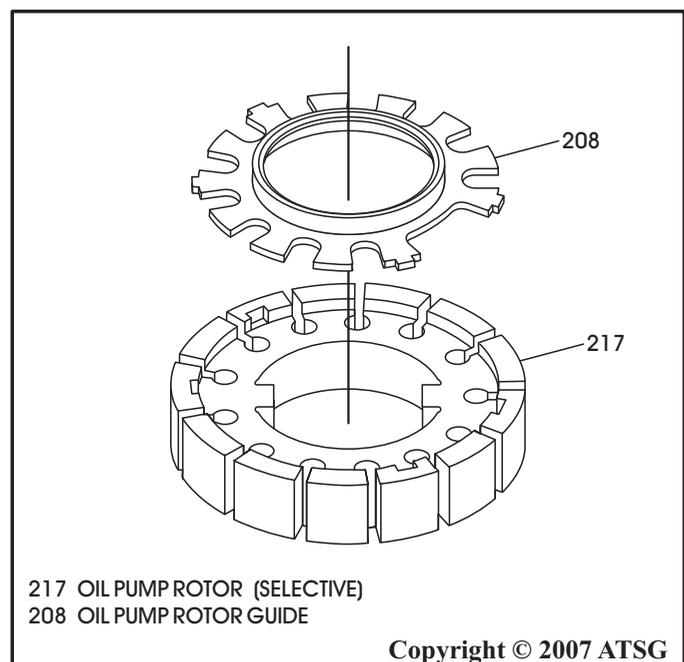

Figure 70
33. Install the oil pump rotor guide into the rotor in the direction shown in Figure 70, and retain with a small amount of Trans-Jel®.
**Note:** Align the rotor guide tabs to notches on the bottom of rotor (See Figure 70).